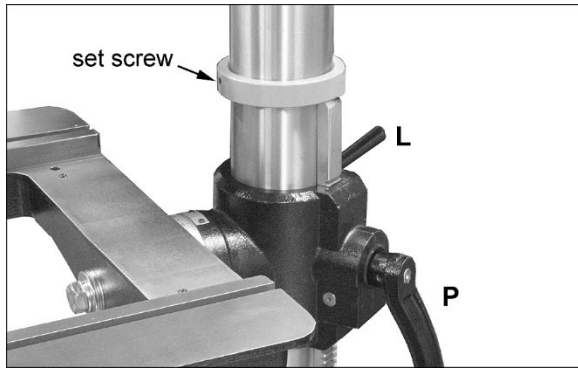

Figure 6-5
10. Place collar onto column and slide it down over top edge of rack. Tighten set screw on collar. Figure 6-5.
11. Slide crank handle (P) onto protruding shaft of worm, and tighten set screw in handle with a 3mm hex wrench.
12. Screw locking handle (L, Figure 6-5) into table bracket. Tighten locking handle to secure table bracket's position on column.
1. Loosen handle (L, Figure 6-5) and turn crank handle counterclockwise to lower table to a convenient position near the head and tighten the locking handle. Place cardboard pieces atop the table to protect the surface.